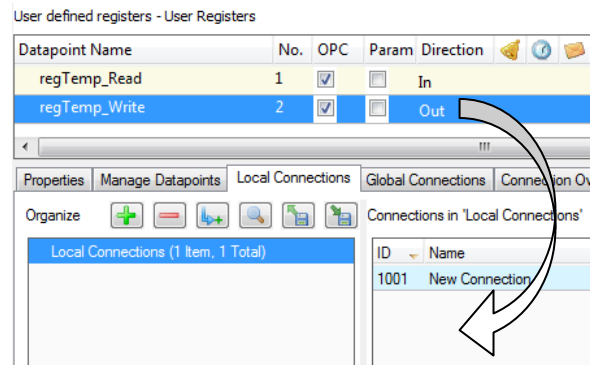

Figure 38: Create a connection with drag-and-drop.
2. In the properties view below the data point list click on the **Local Connections** tab as shown in Figure 38.
3. Then simply drag a data point from the data point list and drop it onto an empty area in the connections list as shown in Figure 38.